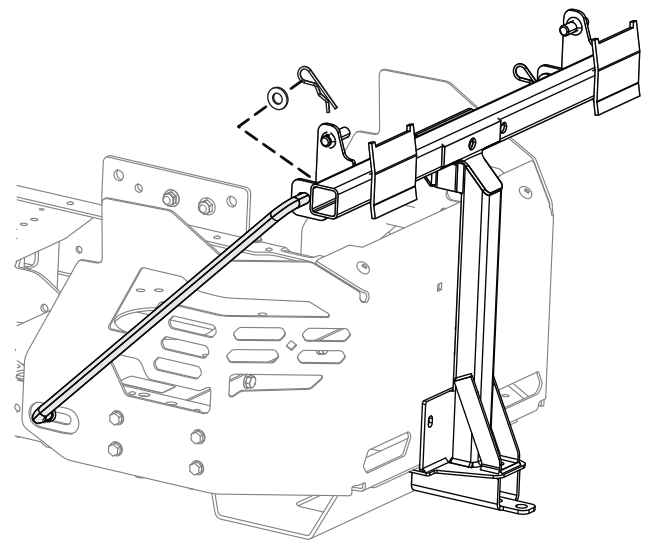

Figure 5
7. Install the bent, flared end of a rod into the keyed slot in the left side of the machine frame, and move the rod rearward to seat it in the frame (Figure 5).